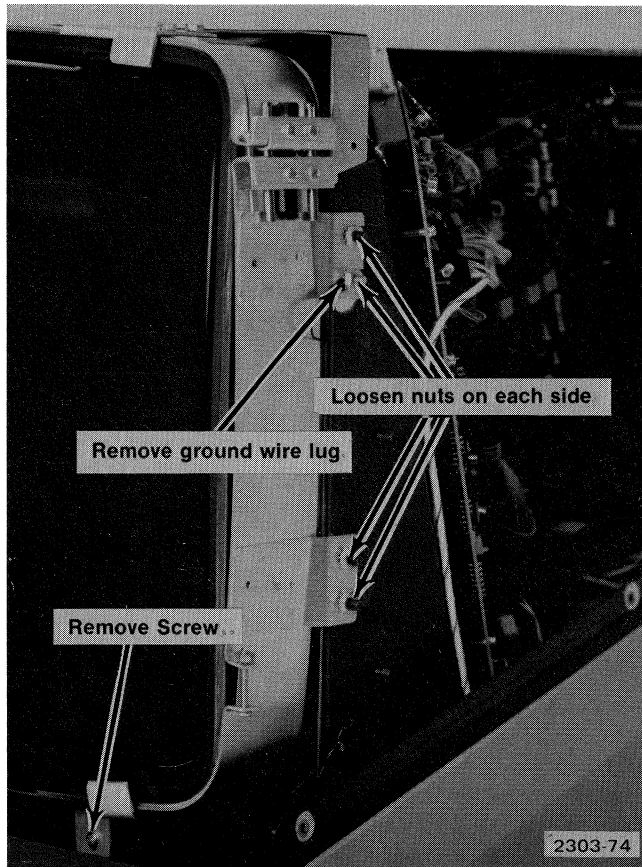

Fig. 3-5. CRT shield assembly removal.
Next free the crt band and shield assembly. See Fig. 3-5. Remove one screw that is holding the tab on the bottom of the crt band (in front). Loosen four (4) nuts on each side of the display (remove the one nut necessary to remove the ground wire lug).